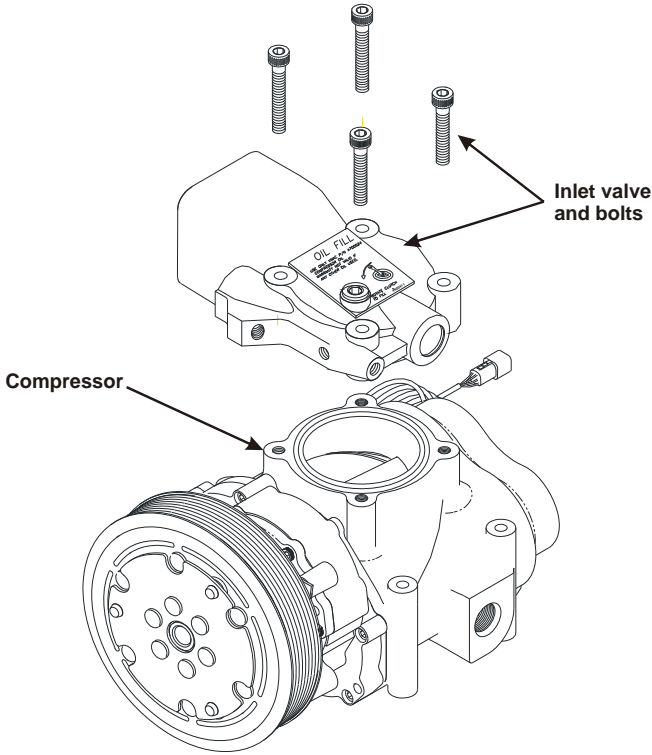

Figure 3.6
- Remove the inlet valve from the compressor to provide access for fastening the compressor to the bracket (Figure 3.6).